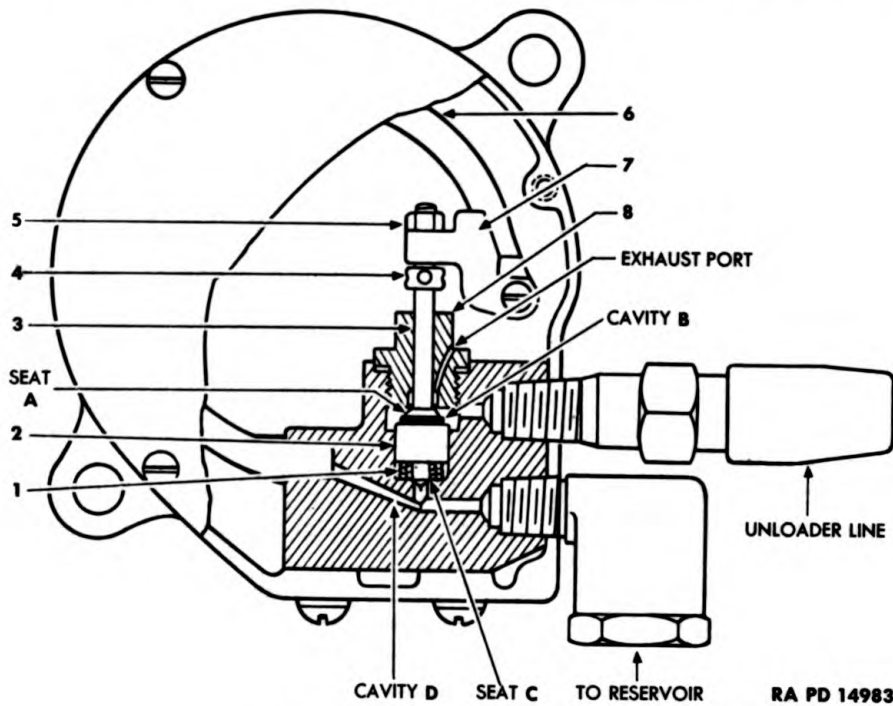

Figure 39—Governor Operation
e. Governor Operation (fig. 39).
(1) The governor (fig. 39) is in the position it takes when the air pressure in the air reservoirs has dropped to 83 pounds per square inch.
(2) The tube (6, fig. 39) is hollow and is connected to the air reservoirs; therefore the air pressure in the tube varies with the air pressure in the air reservoir. The tube is anchored at its lower end only, thus leaving the upper end free to change its tension according to the air pressure within.
(3) The tension exerted by tube (6, fig. 39) through adjusting screw bracket (7, fig. 39) and upper valve (3, fig. 39) holds lower valve (2, fig. 39) down and against its seat (c, fig. 39). This action seals the air pressure in cavity (d, fig. 39) and also prevents upper valve (3, fig. 39) from getting up on its seat (a, fig. 39). The cavity (b, fig. 39) and the unloading system are opened to the atmosphere through the exhaust port.
(4) As soon as the air pressure has been built up to 105 pounds per square inch, the governor opens the unloader system. The force of the air pressure inside of tube (6, fig. 39) deflects the tube, thus removing the tension that was maintained on the lower valve, through adjusting screw bracket (7, fig. 39) and upper valve (3, fig. 39). When this tension is removed, spring (1, fig. 39) aided by the air pressure that is in cavity (d, fig. 39) pushes the lower valve (2, fig. 39) and upper valve (3, fig. 39) upward so that upper valve (3, fig. 39) is held against its seat (a, fig. 39). This closes the exhaust port. As the lower valve (2, fig. 39) is moved upward, it moves away from seat (c, fig. 39) and the air pressure from cavity (d, fig. 39) is permitted to pass up into cavity (b, fig. 39) and out through the unloader pipe. This position is maintained until the air pressure is down to 83 pounds per square inch.